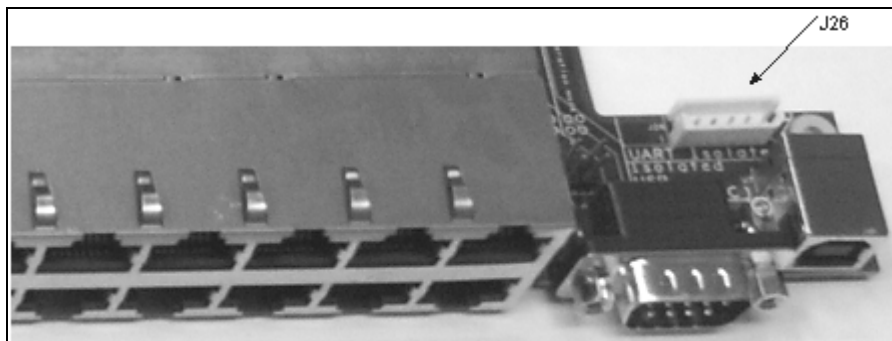

Figure 12: Isolated UART Interface
8. Isolated UART Interface (see Figure 12)